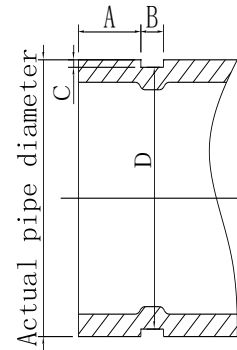

Fig.15
10. The main shaft fastening nut (See Fig.13) shall be removed to facilitate the replacing of pinch roller and matching knurl wheel(See form 1 Fig.15).